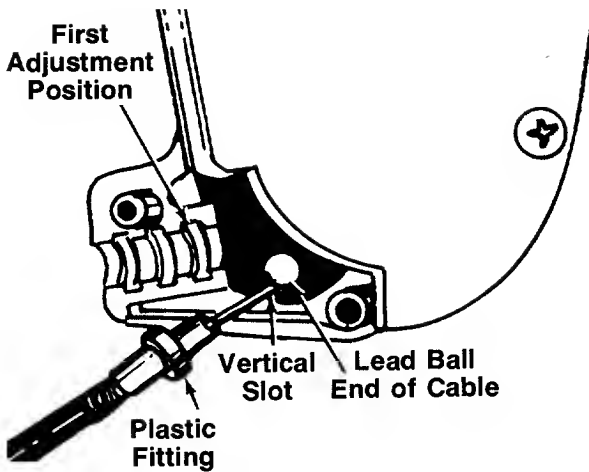

FIGURE 7.
1. Place the lead ball end of the cable into the fitting provided in the end of the clutch control lever. Slip the braided wire into the vertical slot as shown in figure 7.
3. Place the plastic fitting on the control cable into the first adjustment position in the clutch control housing. See figure 7.
When starting the unit for the first time, face the mower against a solid object such as a wall, fence, etc. Start the unit, and if it shows any signs of motion with the drive clutch control disengaged, shut the engine off immediately. Check the position of the drive clutch control cable. The plastic fitting must be assembled in the first adjustment position inside the housing, all the way to the right, as shown in figure 7.